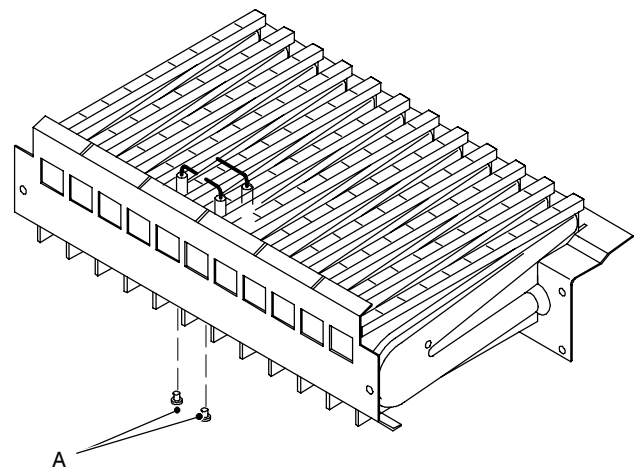

Fig. 86
- 5 Unscrew the screws A (Fig. 86) which hold the electrodes to the burner.